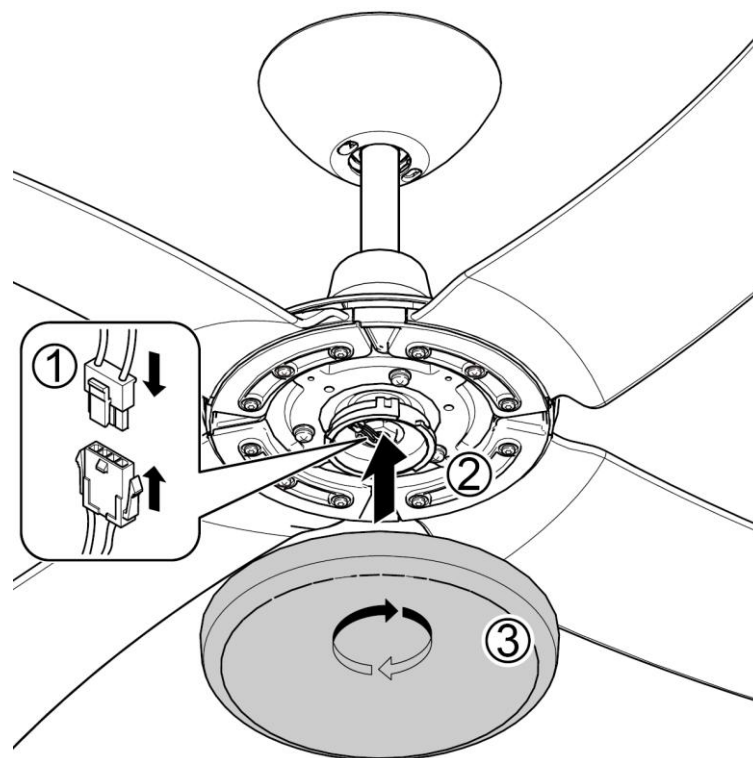

Fig. 5.4
4. Reconnect the LED lamp to the motor assembly by joining the quick connector, then twist the LED lamp clockwise to secure it. (Fig.5.4)